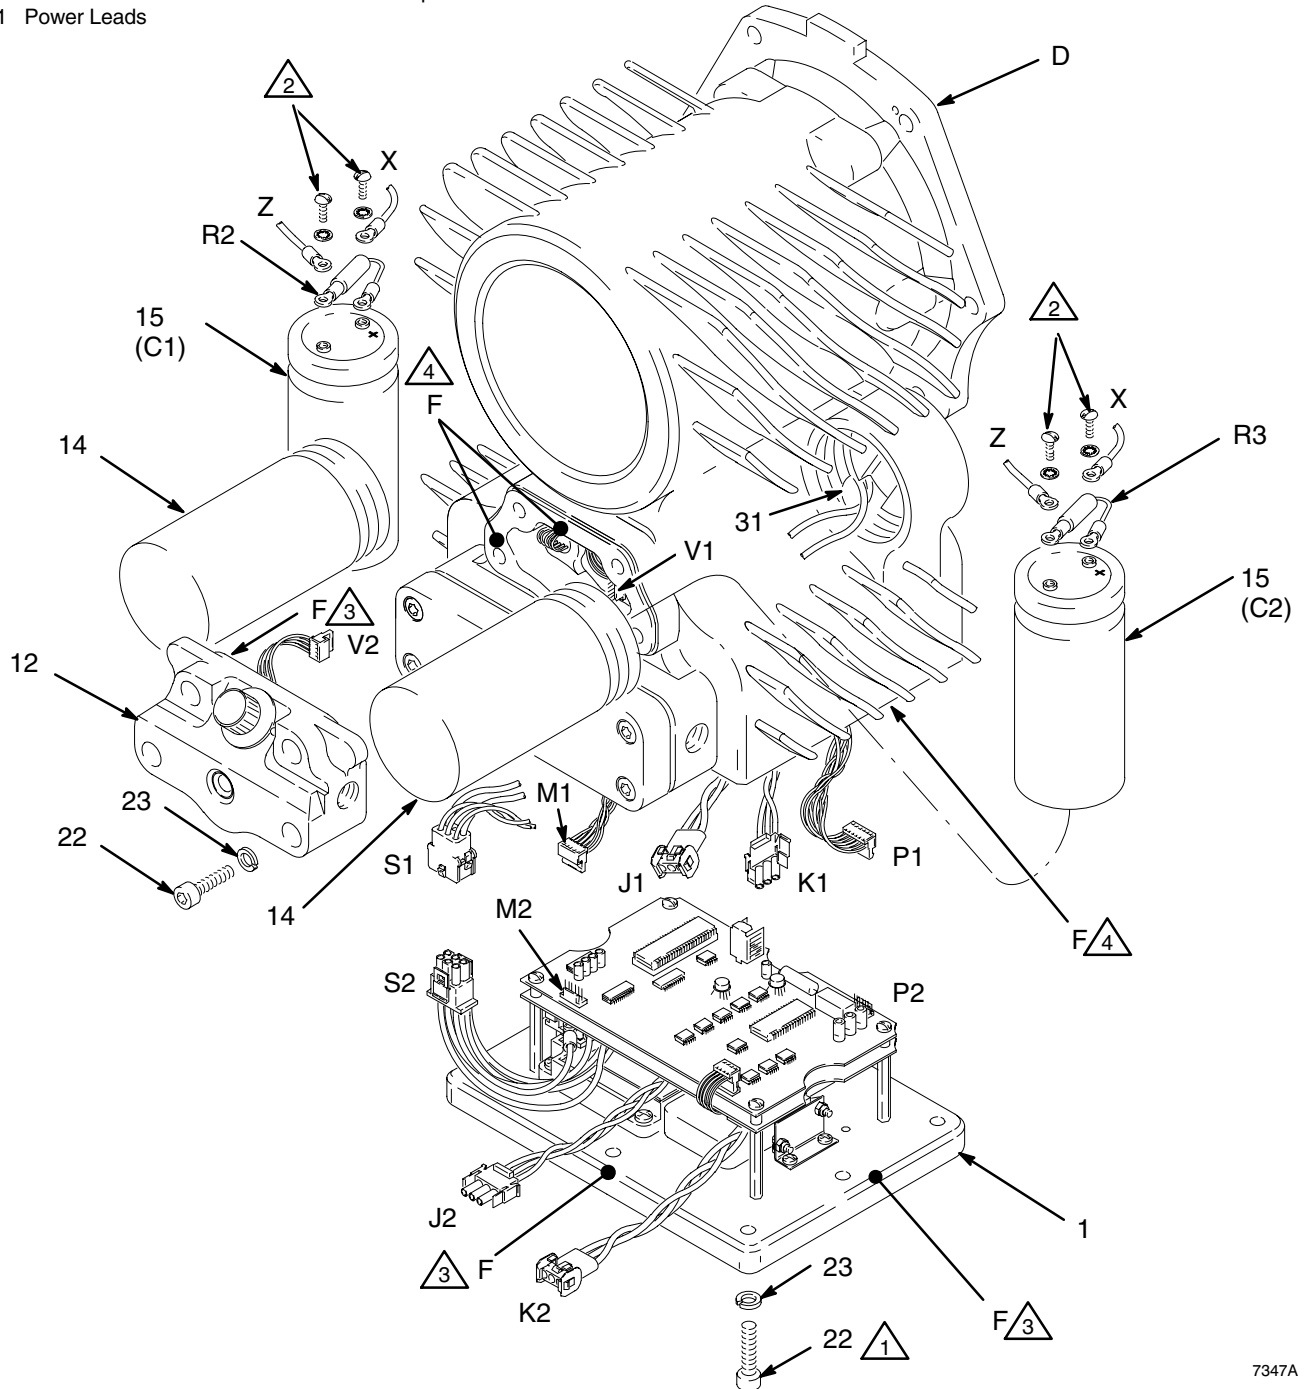
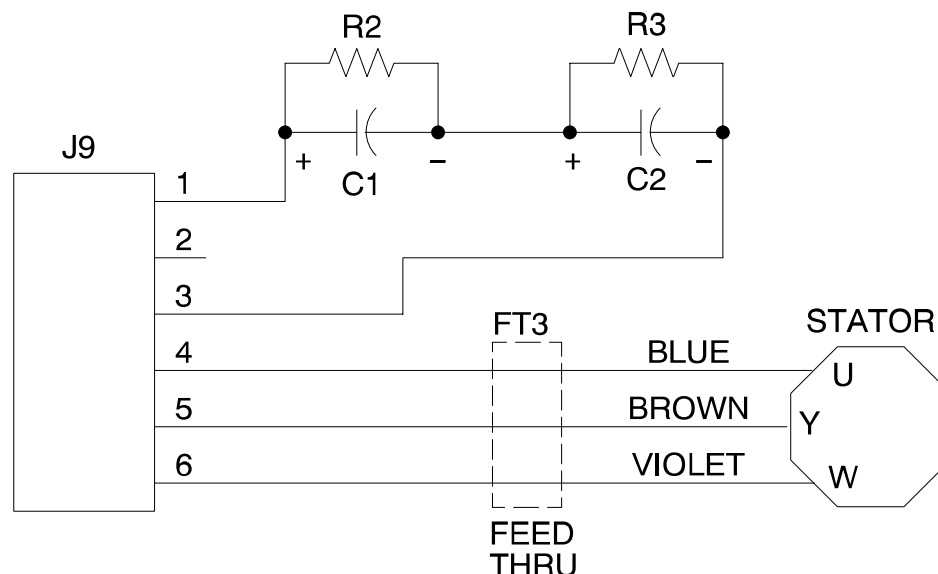

Fig. 10
Fig. 11
Be sure to install all covers correctly and torque all fasteners as specified. Incorrect assembly or damage to the cover and housing flame path surfaces (F, Fig. 10) creates an explosion hazard when located in a hazardous area. Never operate the motor with loose, removed, or damaged covers.
Be sure to install the electronic control module (1) correctly and torque all fasteners as specified. Incorrect assembly or damage to the module and housing flame path surfaces (F, Fig. 10) creates an explosion hazard when located in a hazardous area. Inspect the inner flame path surface of the module and the mating outer surface of the motor housing (D). These surfaces must be smooth, with no nicks or scratches. Never operate the motor if the module is loose, removed, or damaged.
2. Remove the screws (22) and washers (23) holding the control module (1) to the motor housing (D). Carefully move the module away from the housing. See Fig. 10.
4. Disconnect the 6-pin (M1) and 7-pin (P1) connectors from their mating connectors (M2, P2) on the module (1).
6. Remove the electronic control module (1). There are no user-serviceable parts on the module.
7. Inspect the inner flame path surface of the new electronic control module (1) and the mating outer surface of the motor housing (D). These surfaces must be smooth, with no nicks or scratches. Do not operate the motor if these surfaces are damaged.
8. Install the new electronic control module (1) in the reverse order of disassembly. Push all the wires well up into the motor housing (D), to avoid pinching them when reattaching the module.
9. Use a feeler gauge to check that the gap between the electronic control module (1) and the motor housing (D) does not exceed 0.04 mm (.0015 in.). Torque screws (22) to 10–15 N•m (89–133 in-lb).
Be sure to install the signal cover (12) correctly and torque all fasteners as specified. Incorrect assembly or damage to the cover and housing flame path surfaces (F, Fig. 10) creates an explosion hazard when located in a hazardous area. Inspect the inner flame path surface of the cover and the mating outer surface of the motor housing (D). These surfaces must be smooth, with no nicks or scratches. Never operate the motor if the cover is loose, removed, or damaged.
2. Remove the screws (22) and washers (23) holding the signal cover (12) to the motor. Carefully move the cover away from the motor. See Fig. 10.
3. Disconnect the signal cover connector (V2) from its mating connector (V1) in the motor housing (D).
4. Remove the signal cover (12). There are no user-serviceable parts on the signal cover.
5. Inspect the inner flame path surface of the new signal cover (12) and the mating outer surface of the motor housing (D). These surfaces must be smooth, with no nicks or scratches. Do not operate the motor if these surfaces are damaged.
6. Install the new signal cover (12) in the reverse order of disassembly. Push all the wires well into the motor housing (D), to avoid pinching them when reattaching the cover. Make sure the capacitor covers (14) do not obstruct the signal cover.
7. Use a feeler gauge to check that the gap between the signal cover (12) and the motor housing (D) does not exceed 0.04 mm (.0015 in.). Torque screws (22) to 10–15 N•m (89–133 in-lb).
Be sure to install all covers correctly and torque all fasteners as specified. Incorrect assembly or damage to the cover and housing flame path surface (F, Fig. 10) creates an explosion hazard when located in a hazardous area. Never operate the motor with loose, removed, or damaged covers.
2. Remove the signal cover (12) as explained under **Replacing the Signal Cover**. Set the cover aside.
3. Unscrew the two capacitor covers (14) from the motor housing (D). See Fig. 10.
**NOTE:** If you pull the free wires out of the capacitor cavity, you may have to remove the electronic control module (1) to retrieve them.
8. Install the capacitors in the reverse order of removal. Be sure the wires feed through the slot in the plastic insulators (31). Be sure to connect the + wire (X) to the + terminals and the – wire (Z) to the – terminals. Connect the +/- wire (Y) to the – terminal of C1 and the + terminal of C2. Be sure to reinstall the bleed resistors (R2 and R3) on the capacitors, as shown in Fig. 10. Torque the terminal screws to 2.7–3.4 N•m (24–30 in-lb). See Fig. 11 for the capacitor wiring diagram.
9. Turn the capacitor covers (14) in completely to ensure that they do not prevent the signal cover (12) and housing flanges from mating.